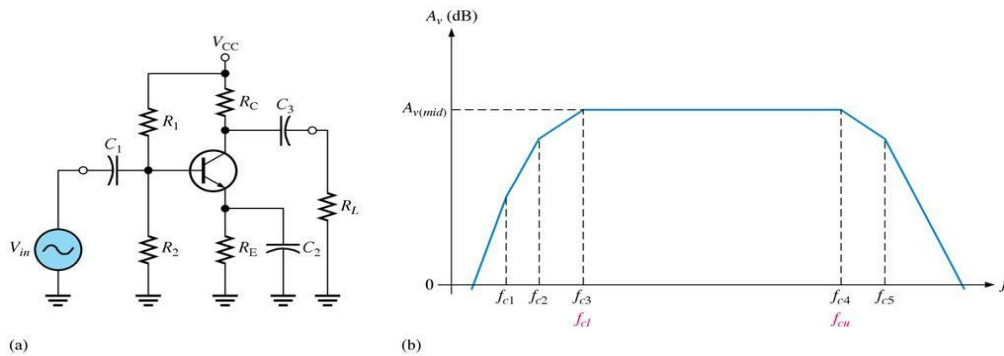

Figure 3.31 BJT amplifier circuit and response curve
- A generalized ideal response curve (Bode plot) for the BJT amplifier described in Figure 3.31 (a) is shown in Figure 3.31 (b).